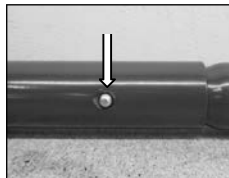

fig 2.
2. Insert the bolt and tighten in a clockwise direction (where fitted) (fig.2).